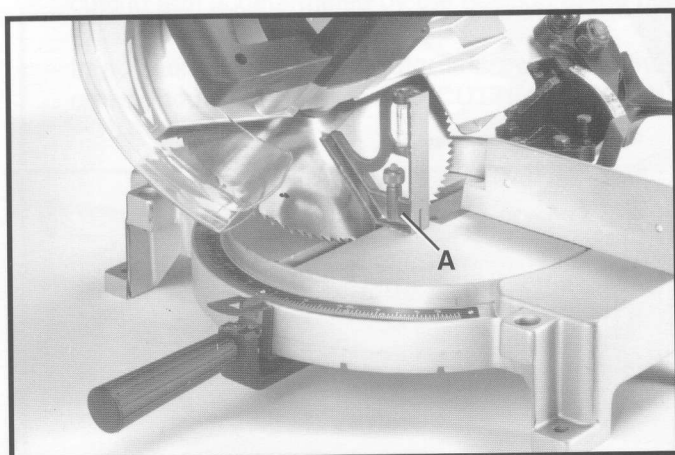

Fig. 27
6. Using a combination square (A) Fig. 27, check to see if the blade is at 45 degrees to the table, as shown.